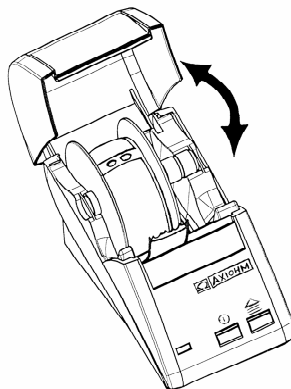

Figure 1-3: After the labels have been properly fed past the label tear bar, rest the label spindle holder and close the cover.
- Return the label roll spindle with the labels to the spindle holder. The spindle will settle into the raised shoulder slots in the printer. See Figure 1-3.